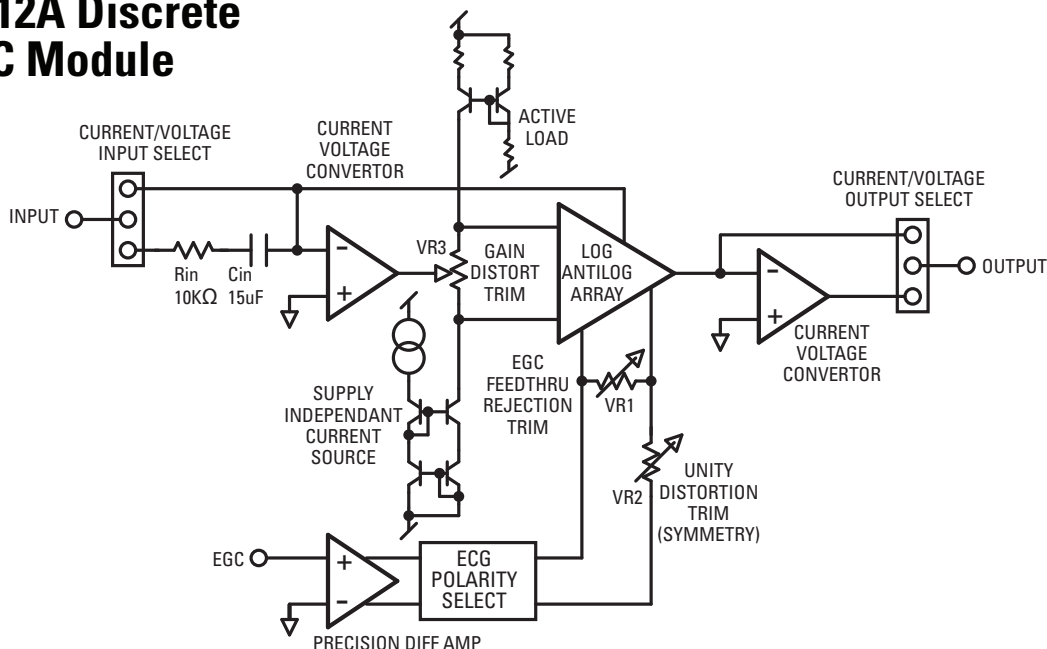
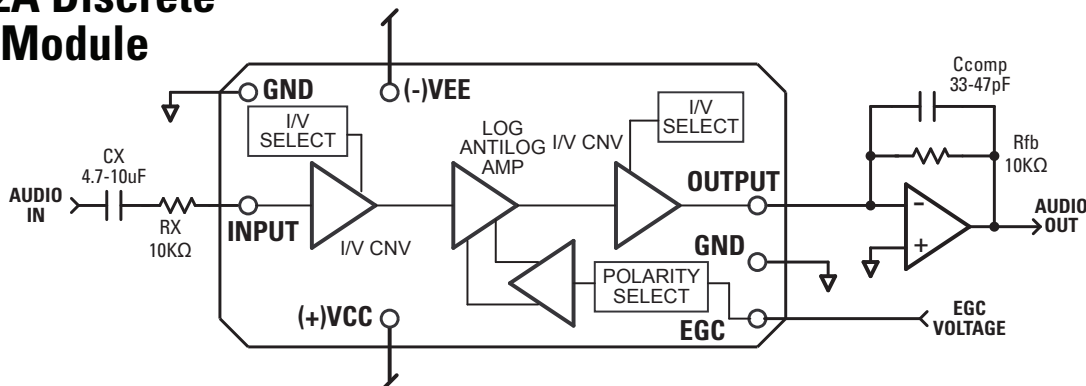

FIGURE 1. Simplified Block Diagram of the Sonic Imagery Labs Model 312A VCA-EGC Module.
FIGURE 5. illustrates connections and typical current-in and current out mode of operation.
With shunt jumper placed across PINS 2 and 3 of pin block P2, the Model 312A is configured as a current input device. While this might cause some conceptual difficulty for designers first exposed to this convention, the current input/output mode provides great flexibility in application. The audio input pin is a virtual ground with negative feedback provided internally in this mode. The input resistor (shown as 10K Ω in **Figure 5**) can be scaled to convert the ac input voltage to a current within the linear range of the 312A module. For example, if RX is changed to 4.99K Ω the exponential control is shifted by 6dB of gain. See **Figure 6.** for additional values.
With shunt jumper placed across PINS 1 and 2 of pin block P2, the Model 312A is configured as a voltage input device. The resistor and input coupling capacitor shown in **Figure 5** are not needed because they are now in line with the voltage input mode path of the input pin. See simplified block diagram, **Figure 1.** The onboard input resistor is 10K Ω and the coupling capacitor is 15 μ F.
With shunt jumper placed across PINS 3-5 and PINS 4-6 of pin block P3, the Model 312A is configured as a current output device. In this mode, the output is intended to be connected to a virtual ground node, so that current flowing in it may be converted to a voltage. Choose the external op-amp for optimal audio performance. The feedback resistor should be chosen based on the desired current to voltage conversion constant. Since the resistor (Rin) determines the V to I conversion at the input, the familiar ratio of Rfb/Rin for an inverting opamp will determine the overall voltage gain when the 312A module is set for 0dB current gain. Since the 312A module is optimized for performance at unity gain, setting Rfb to 10KΩ will set the complete circuit shown in **Figure 5** to 0dB with the EGC at 0 volts DC. This essentially sets the tilt of the gain/loss slope shown in **Figures 3** and **4**.
A small feedback capacitor (Ccomp) around the output op-amp shown in **Figure 5** is required to cancel the output capacitance of the 312A module when in current-out mode.
With shunt jumper placed across PINS 1-3 and PINS 2-4 of pin block P3, the Model 312A is configured as a voltage output device. In this mode, the output of the log-antilog amplifier array is buffered similarly to the typical application shown in **Figure 5**. The output buffer can sink and source 24mA and drive loads down to 600Ω
In all upgrade cases, the concept to remember is to identify the operating mode correctly, either voltage-in/voltage-out, current in/current out, voltage-in/current out or current in/voltage-out mode. Over the years there have been many variations and generations of gear produced. When below THRESHOLD and with COMPRESSION/LIMITING not activated, the user will have to confirm that with a 0dBV signal input to upgraded gear still produces a 0dBV signal at the output. If this is not the case after upgrading, this indicates that the offset of the compression slope is different. By referring to **FIGURES 5 and 6** and adjusting/replacing the series input resistor (RX) in the unit being upgraded to the appropriate value, one should be able to bring the unit to better than original factory specification, particularly in areas of noise, distortion, speed and bandwidth.